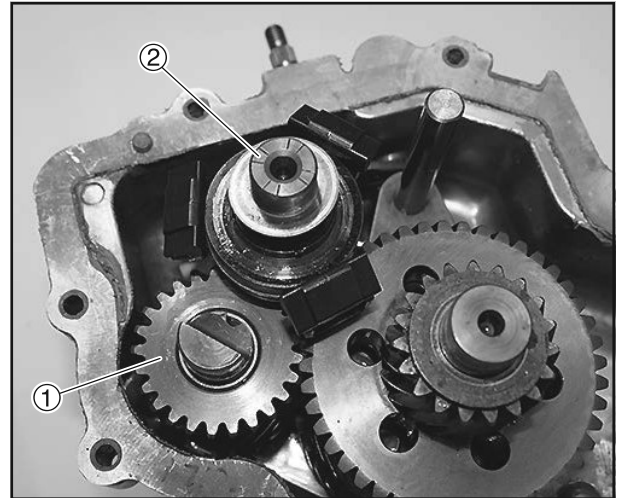

Figure 6-77
11. Remove the idler gear (Figure 6-77, (1)) and input shaft and rotate the governor shaft (Figure 6-77, (2)).